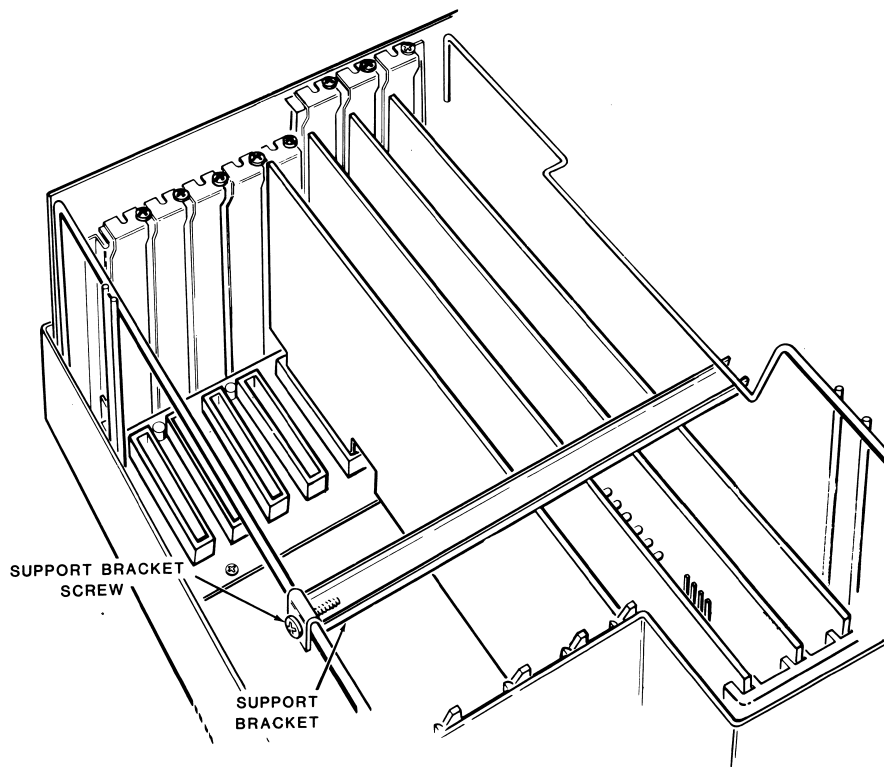

Figure 10. Support Bracket
See Figure 10.
- ☐ Replace the support bracket with the support bracket screw as shown in Figure 10.